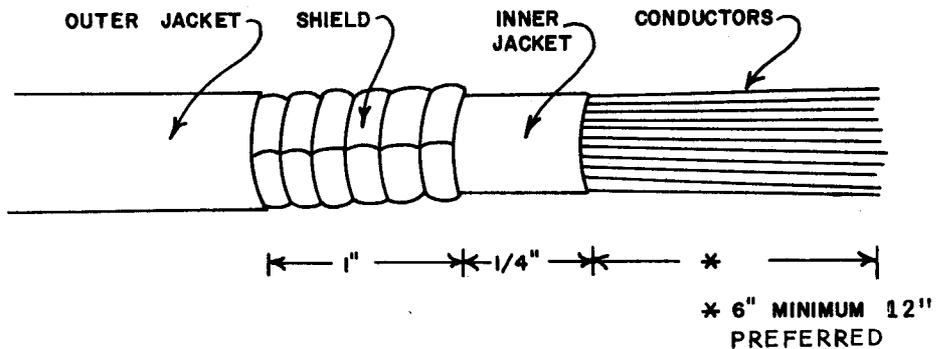

FIGURE 4
5.03 Figure 4 shows the dimensions of the 2, 3 and 6 pair BDW required for splicing in the 9-Type Closure.